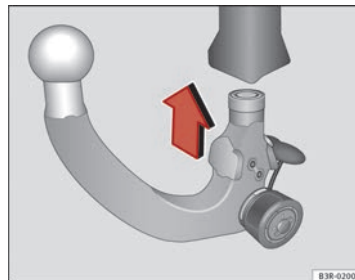

Fig. 156 Removable towing bracket: Inserting the ball joint
- With the spring mechanism in the ready position, insert the ball joint into the mounting fixture and push it upwards ⇒ **fig. 156** in the direction indicated (arrow) ⇒ **⚠**. It should lock into position automatically. You should now clearly hear it click into place.